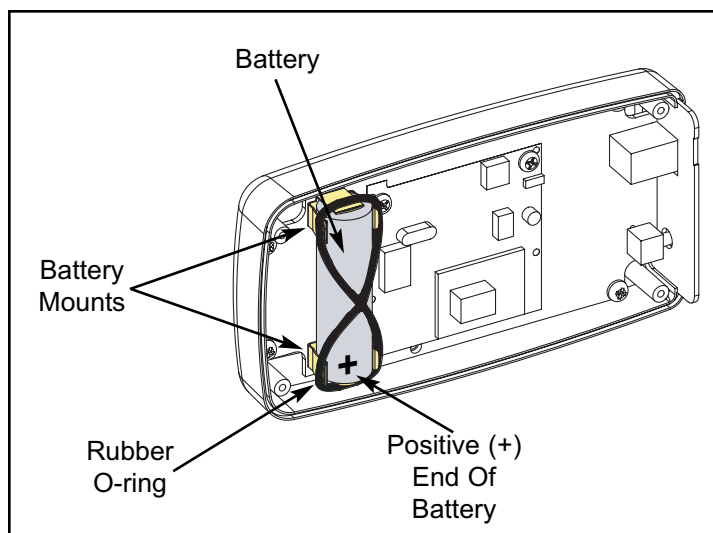

Figure 2
4. Install new battery with the correct orientation. The positive (+) end of the battery faces down. See Figure 2.
5. Install rubber o-ring by hooking onto one battery mount. Make one half twist and hook onto other battery mount. See Figure 2.